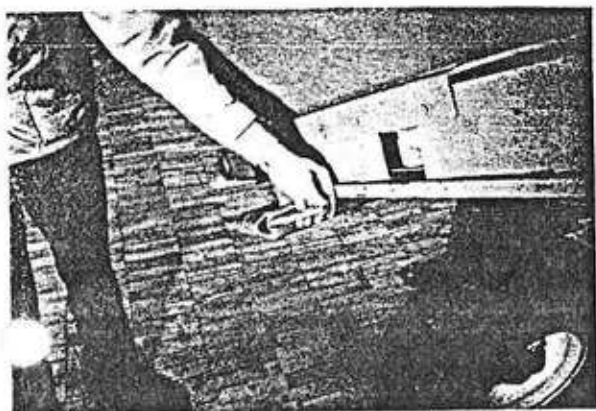

FIGURE 14
1. Remove bolt that holds side conveyor in transport position. Figure 14